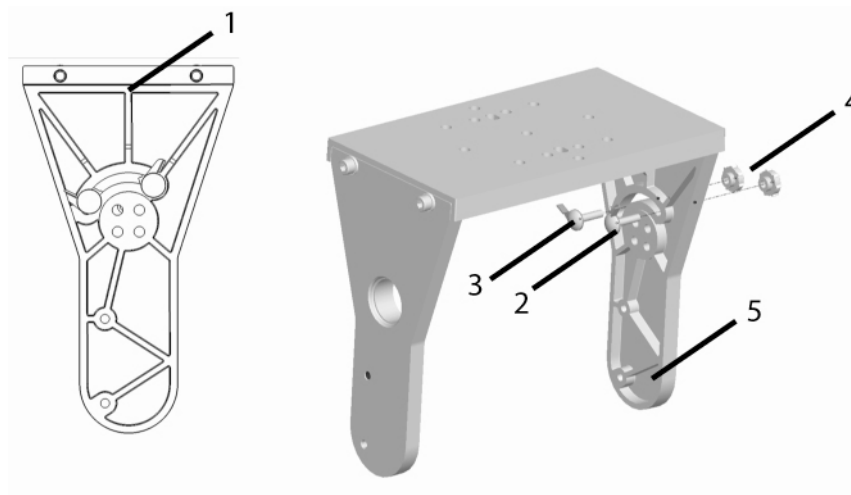
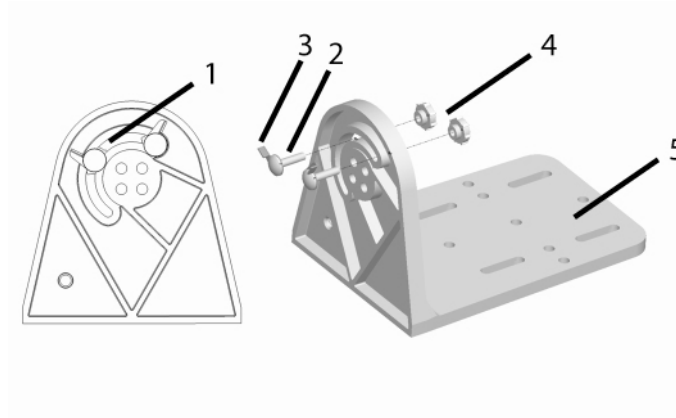

Fig. 16 Over the Top tilt limit adjustment
Fig. 17 Side mount tilt limit adjustment
1. Drive the unit to the required tilt stop positions to adjust the strikers. For Over the Top mounting see Fig. 16, for Side Mounting see Fig. 17.
2. Release the screw locks (4).
3. Adjust the strikers (3) until they are at the position to strike the microswitch actuator.